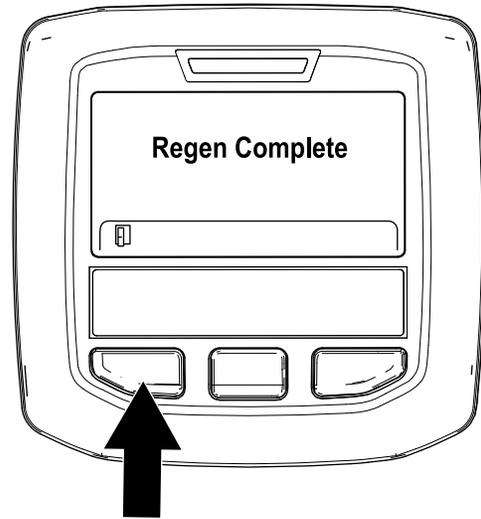

Figure 57
9. The parked regeneration is complete when the “Regen Complete” message displays in the InfoCenter. Press the left button to exit to the home screen (Figure 57).